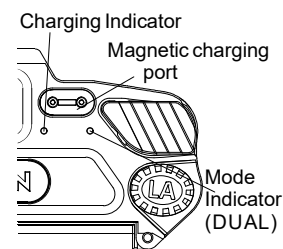

Fig 3
- 2) Connect the USB end of the charging cable to an external USB power source, then attach the opposite end of the magnetic charging cable to the charging port of the sight. (See Fig 3).